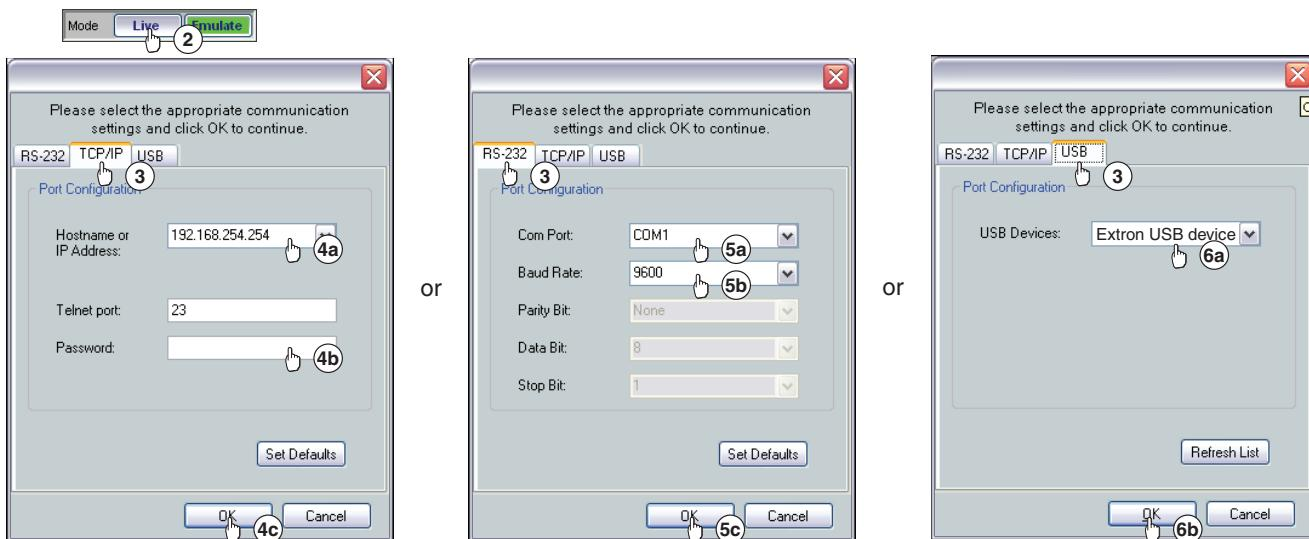

Figure 52. Selecting Live Mode
2. Click the Mode **Live** button, (see figure 52, ②). The **Communication Type** selection window appears.